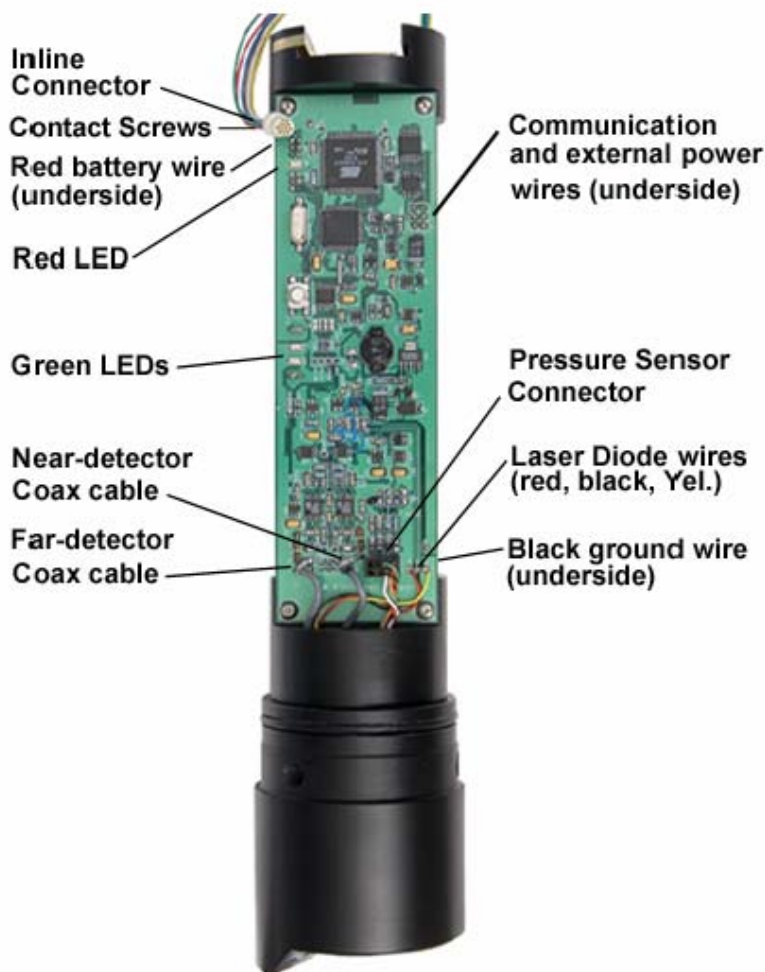

FIGURE 8-1. Internal components
- Open unit and inspect for: 1) broken sensor wires, and 2) loose pressure sensor connector (FIGURE 8-1).